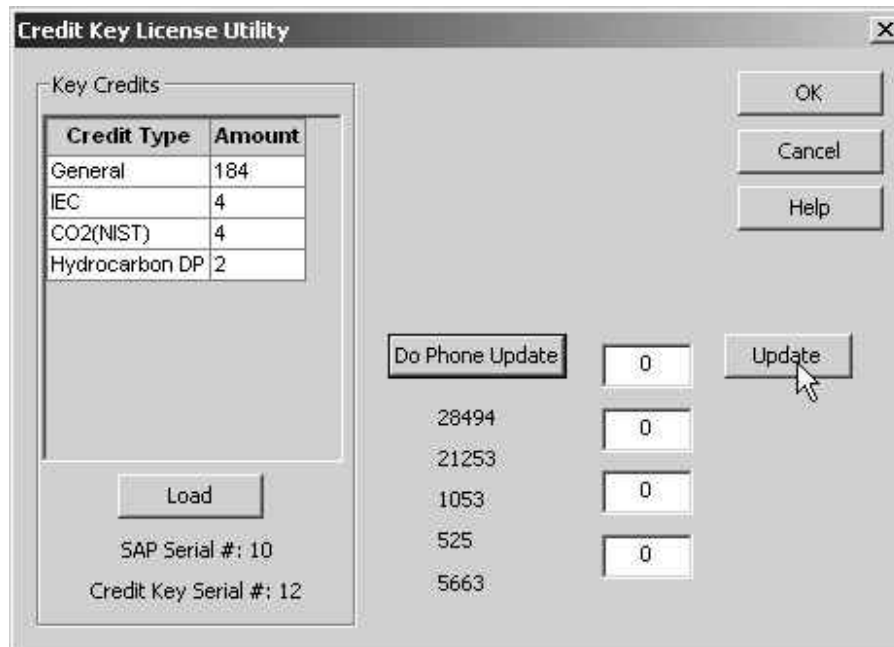

Figure 77 Application Credit Entry Screen
8. The clerk will ask for the five (5) encrypted codes that appear directly beneath the **Do Phone Update**. Read them from top to bottom (see Figure 77).